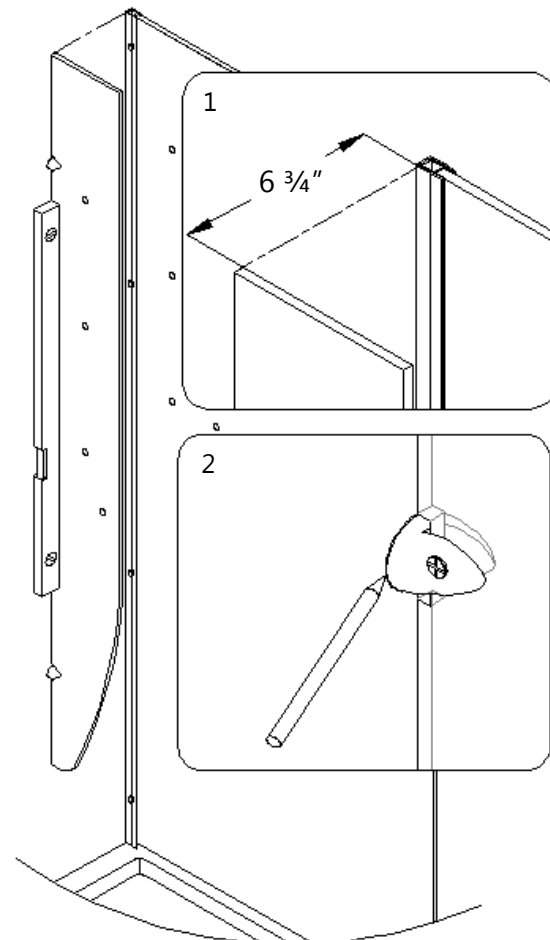

Fig. 16
13. Draw the line on the wall according to the measurement in Fig. 16 for the **Shelving side panel (24)**.
See Fig. 16 for details.